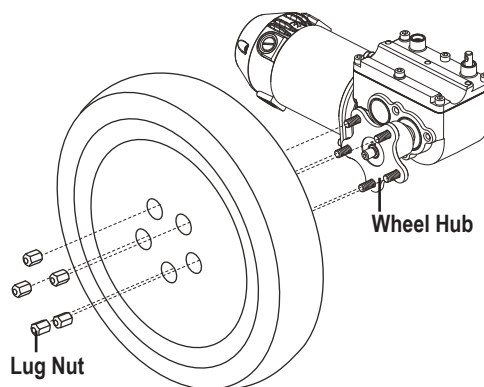

Figure 19. Drive Wheel
4. Remove the five (5) lug nuts from the wheel hub. **See figure 19.**